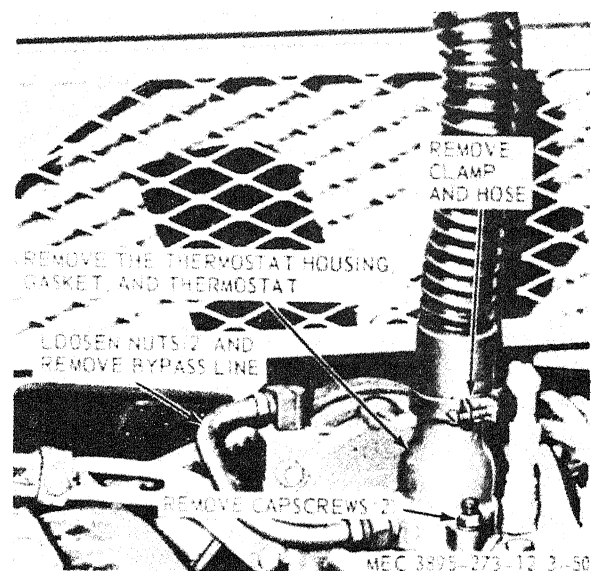
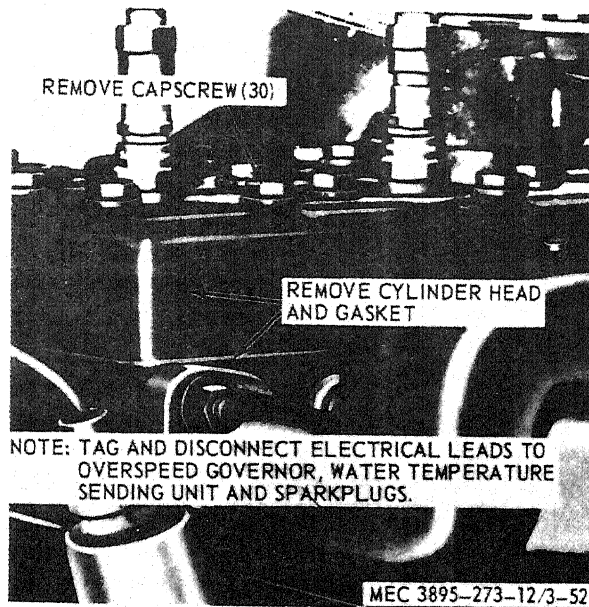

Figure 3-47. Thermostat and thermostat housing, removal and installation.
Figure 3-49. Cylinder head, removal and installation.
a. Removal. Remove the thermostat and thermostat housing as instructed on figure 3-47.
- (1) Clean all parts with an approved cleaning solvent.
- (2) Inspect the housing for cracks and defects. Replace defective housing.
- (3) Inspect the thermostat for damage and defects. Test the thermostat by submerging it in a container of water over a suitable heating device. Heat water and check temperature at which the thermostat begins to open. The thermostat should begin to open at 160° F. If the thermostat will not meet these requirements, it must be replaced.
c. Installation. Install the thermostat and thermostat housing in reverse of the instructions on figure 3-47.
- (1) Drain the radiator (para 3-75).
- (2) Disconnect upper radiator hose and by-pass tube (figure 3-47).
- (3) Remove oil filter (para 3-72).
- (4) Remove overspeed governor (para 3-67).
- (5) Remove cylinder head as instructed on figure 3-49.
- (1) Use a new head gasket and install the cylinder head in reverse of the instructions on figure 3-49.